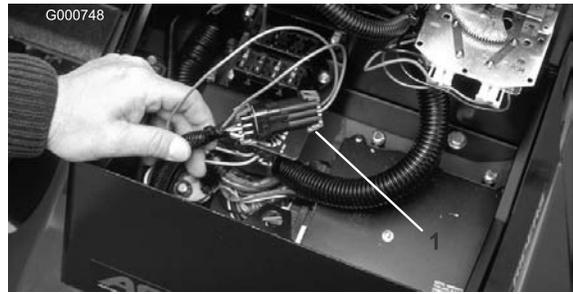

Figure 39
2. Open control panel cover. Locate wire harness and loopback connector. Carefully unplug loopback connector from harness connector (Figure 39).